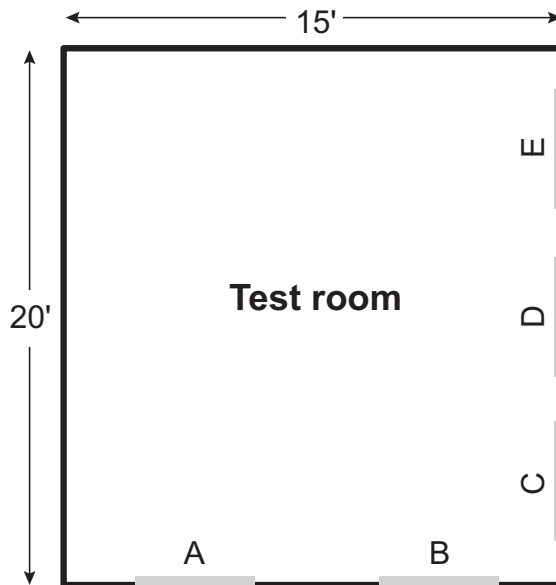

Figure 7-3: Test room
- Calculation area:** This value represents the area to be analyzed. This example uses the room shown in Figure 7-3.